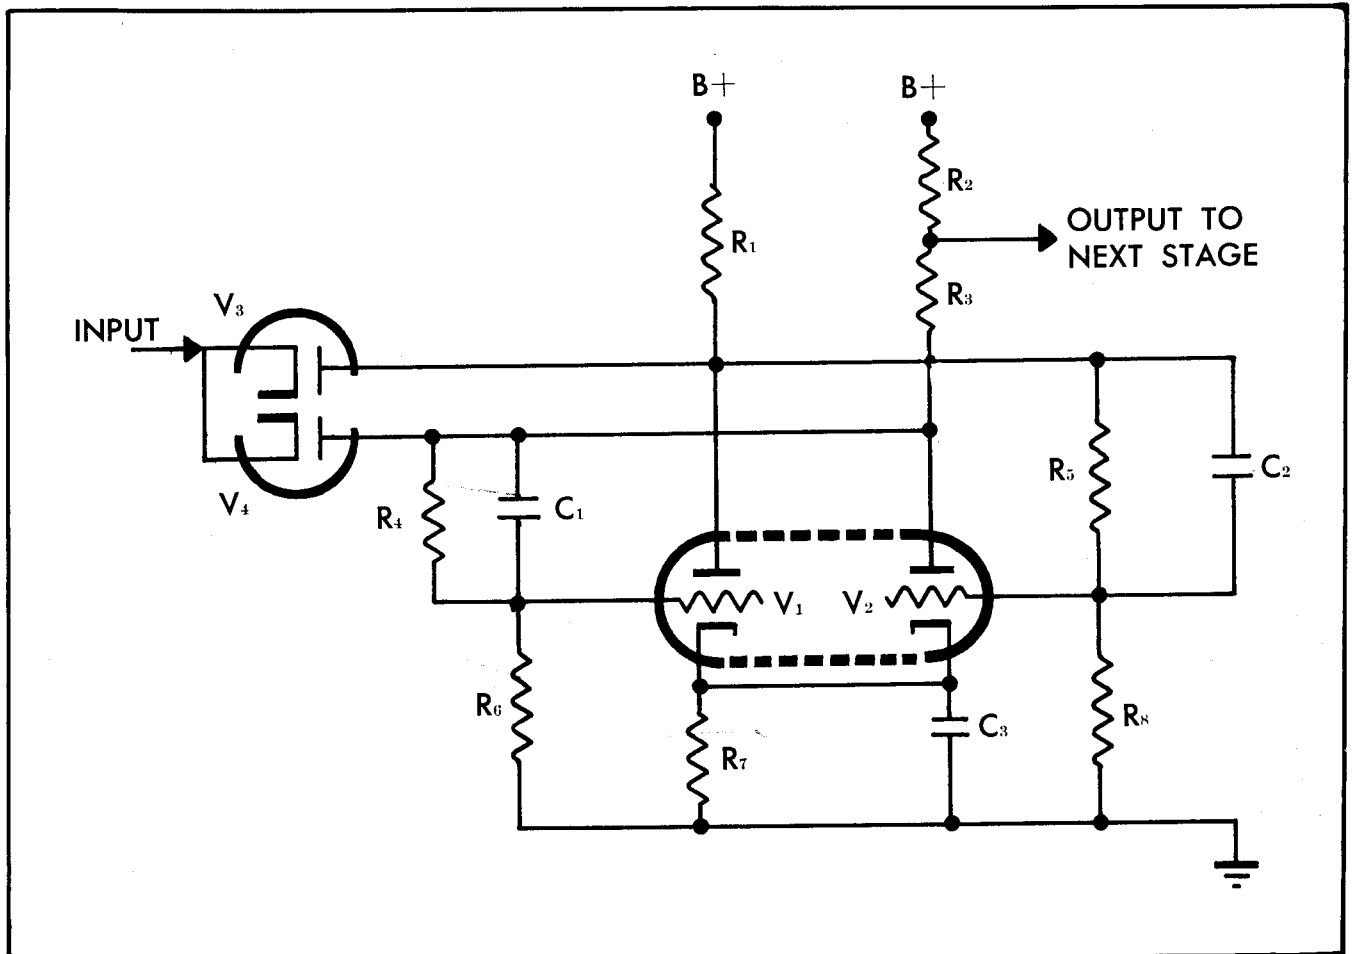

Figure 2-6. Decimal Counting Stage, Simplified Schematic
5. A simplified schematic diagram of one stage is shown in Figure 2-6. The circuitry consists of a modified Eccles-Jordan trigger network with two stable states, commonly referred to as a binary. The binary is simply a two-stage amplifier with the output of the second stage direct-connected to the input of the first, as shown in Figure 2-6. In this manner the circuit operates in a "loop." With no input pulse applied through the diodes V_3 or V_4 , the loop gain is less than one, and the circuit is in one of two stable states: either V_1 conducting and V_2 cut off, or V_2 conducting and V_1 cut off. The circuit is triggered from one state to the other by making the loop gain greater than one. The binary is coupled to a single trigger source through the diodes V_3 and V_4 so that only negative pulses cause triggering action. If the input signal has a steady value equal to B+, neither diode, V_3 or V_4 , conducts since the cathode potential is then approximately equal to the plate potential. For simplification, assume that V_2 is conducting and V_1 is cut off. If a negative pulse is applied to the input, V_3 will conduct, and since its resistance is small compared to that of R_1 , there is a drop in the plate voltage of V_1 . This drop in voltage is transferred through the cross-over network (R_5 , R_8 , C_2 , and the grid-to-ground capacitance of V_2) and applied to the grid of V_2 . The plate voltage of V_2 then starts to rise, and the grid of V_1 does likewise. If the input pulse is of sufficient amplitude to make the loop gain greater than one, the binary is then triggered to